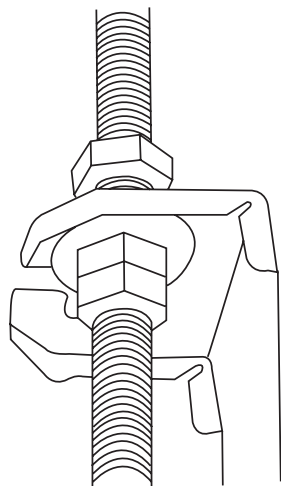

Fig. 3.5
- Mount the indoor unit. You will need two people to lift and secure it. Insert suspension bolts into the unit's hanging holes. Fasten them using the included washers and nuts (See Fig. 3.5).